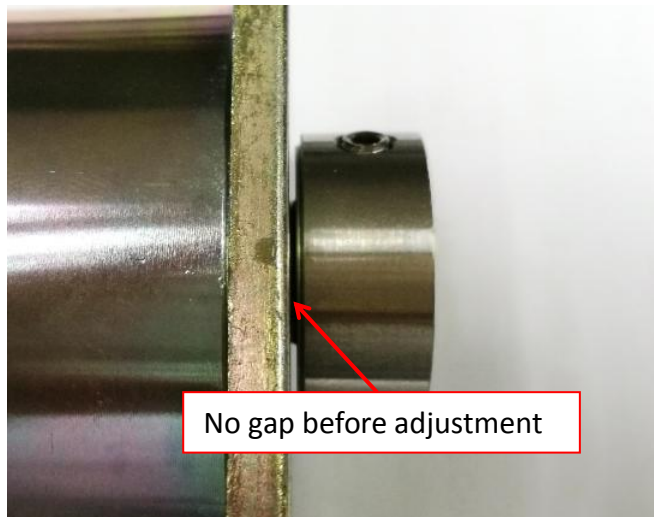

Figure 8 Belt Pulley Assembly
2. Select 0.25 mm Filler Gauge & gently insert between Belt Pulley and Conveyor Motor as shown in Figure 8